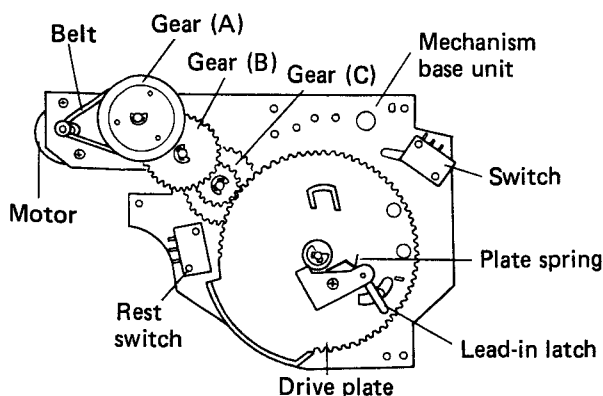

Fig. 2-7 Auto lead-in operation 1
1. When the START/STOP key is pressed, the tonearm drive motor rotates clockwise, and in turn drives the drive plate counter clockwise via gears (A), (B), and (C) (see Fig. 2-7 and relevant circuit description).